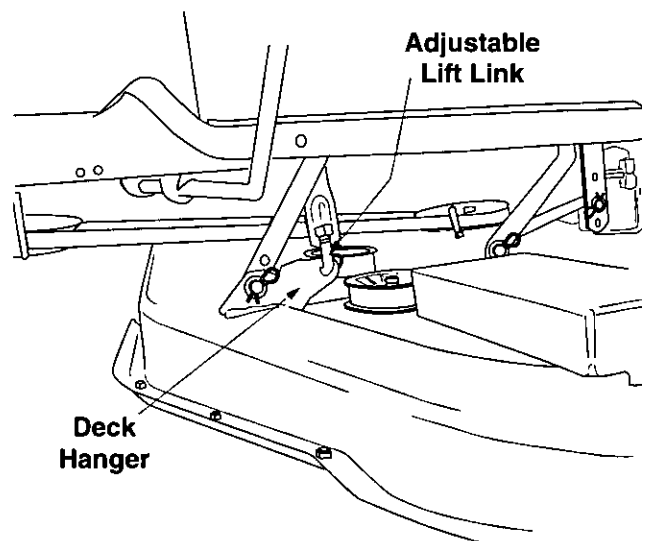

Figure 8
1. Remove the hairpin clip and flat washer from the bottom of the adjustable lift link on the left side of the deck. See Figure 8. (Hairpin clip and flat washer are on the inside of the lift link.)